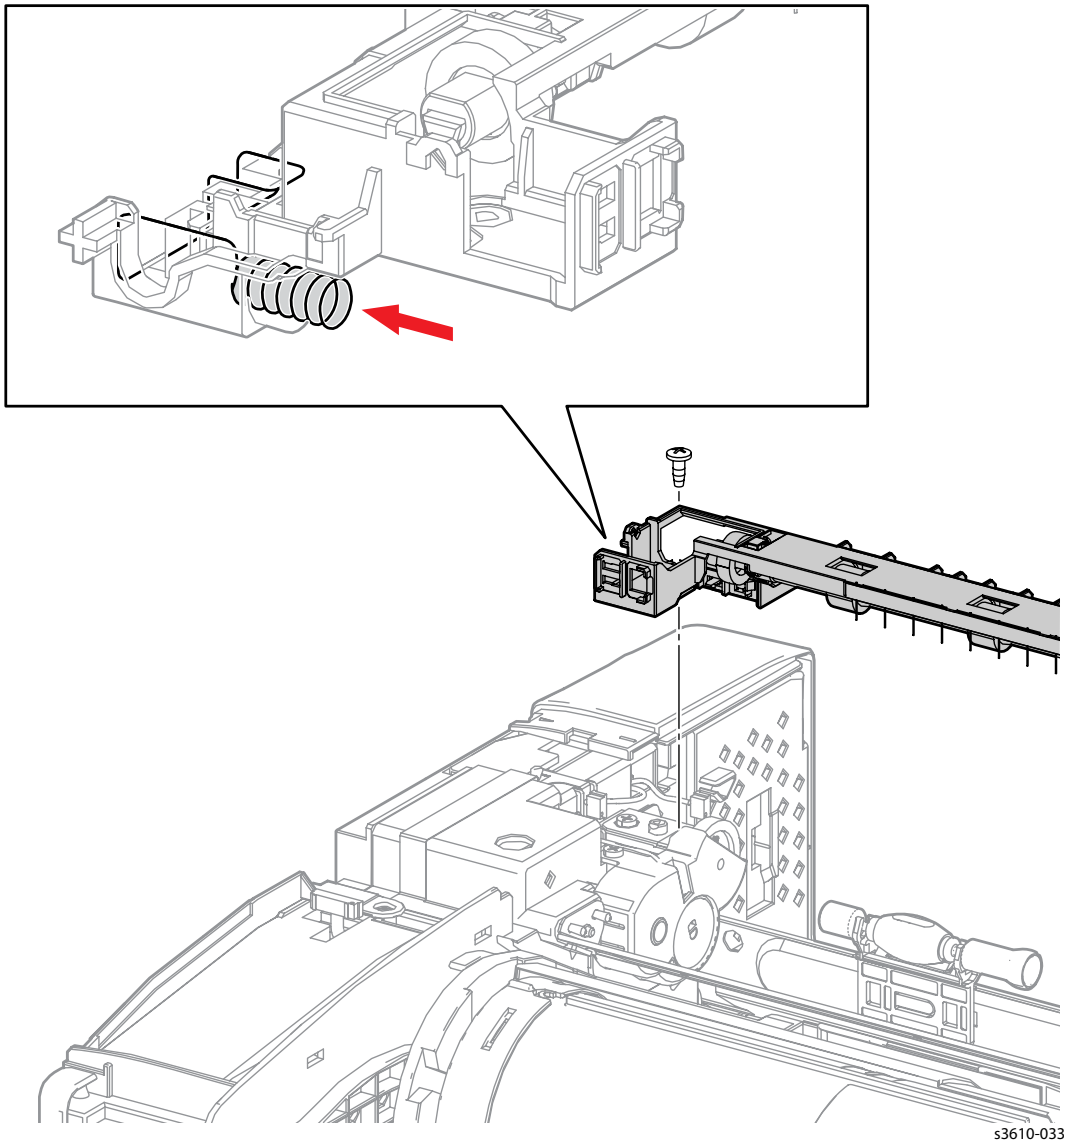

Figure 2
1. When installing the Exit Chute Assembly, the Sensor Ground Spring must contact the chassis ground plate. (Figure 2)